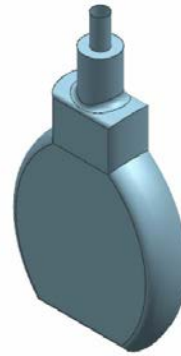

Figure 11-61 The surface model after creating the extrude feature
3. Select the sketch and enter the value **15** in the **Distance** edit box available below the **End** drop-down list. Next, choose the **OK** button from the **Extrude** dialog box. The resulting surface model is shown in Figure 11-61.